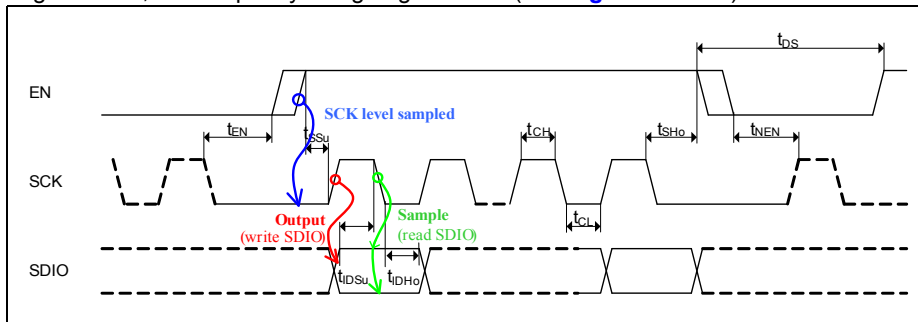
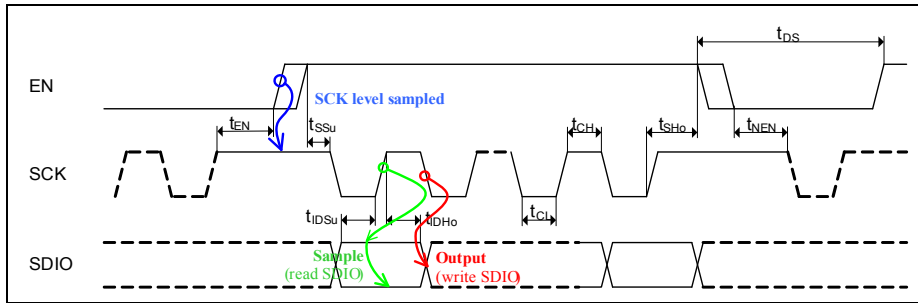

Figure 6 SPI Timing — SCK low at rising edge of EN
Figure 7 SPI Timing — SCK high at rising edge of EN
- **EN** - **enable input** with embedded pull-down resistor. High level on EN input enables the SPI transmission. The rising edge of the EN signal triggers the selection of the active SCK edge (for the consequent data transfer, until the EN line goes again in low state) and transmission/ sampling of data between the device and the microcontroller can start. For details refer to Figure 6 and Figure 7.
- SCK** - **clock input** pin with embedded pull-down resistor. If SCK is at low level while EN goes high, the incoming SDIO data is sampled by falling edge of the SCK and the output SDIO data is set by the rising edge of SCK. Contrariwise, If SCK is at high level when EN goes high, the SDIO data is sampled with the rising edge of the SCK clock and output on SDIO by falling edge of the SCK clock. For details refer to **Figure 6** and **Figure 7**.
If SCK is low at that moment, the incoming SDIO data will be sampled with the falling edge of SCK, and output by rising edge of SCK (see **Figure 6** below).
If SCK is high during occurrence of rising edge on EN, incoming SDIO data is sampled with the rising edge on SCK, and output by falling edge of SCK, as illustrated in **Figure 7**.